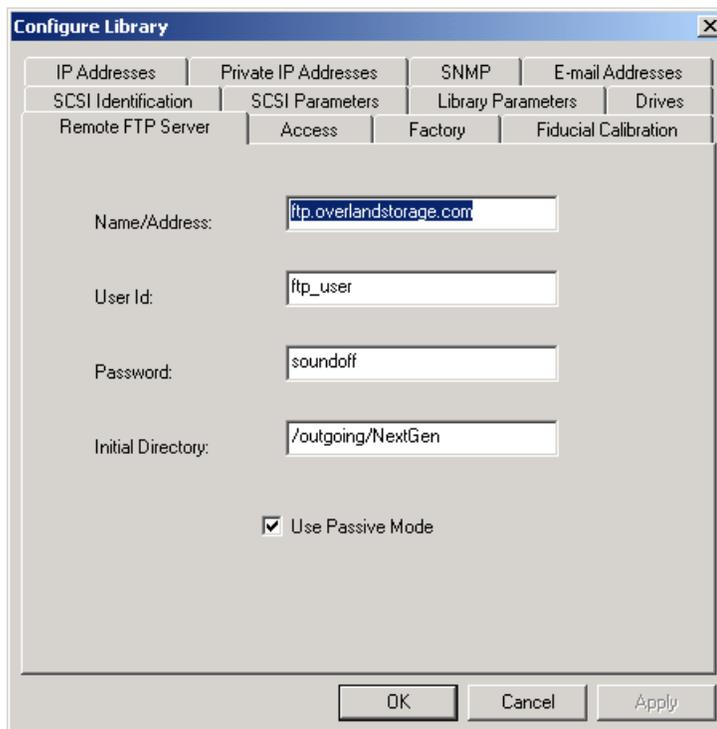

Figure 7-11: Configure Library Dialog Box—Remote FTP Server Tab
1. Click the **Remote FTP Server** tab to bring it to the front (Figure 7-11).